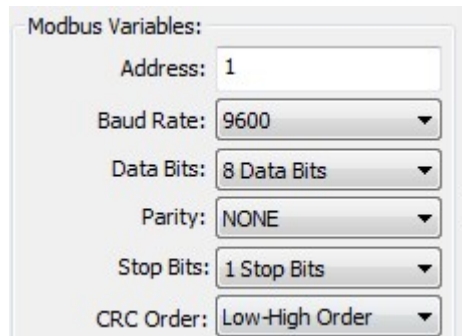

Figure 5.48 Modbus CRC byte order selection
1. Select "detailed Design"->"Modbus variable"-> the drop-down box corresponding to"CRC byte order", the check includes: Low-high and High-low, as shown in Figure 5.48